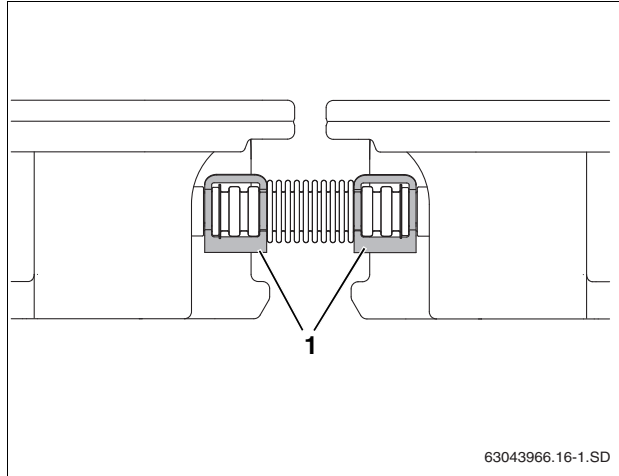

Fig. 50 Flexible connector secured with clips
- ▶ Secure each plug with one clip and each flexible connector with two clips (Fig. 50, [1]).